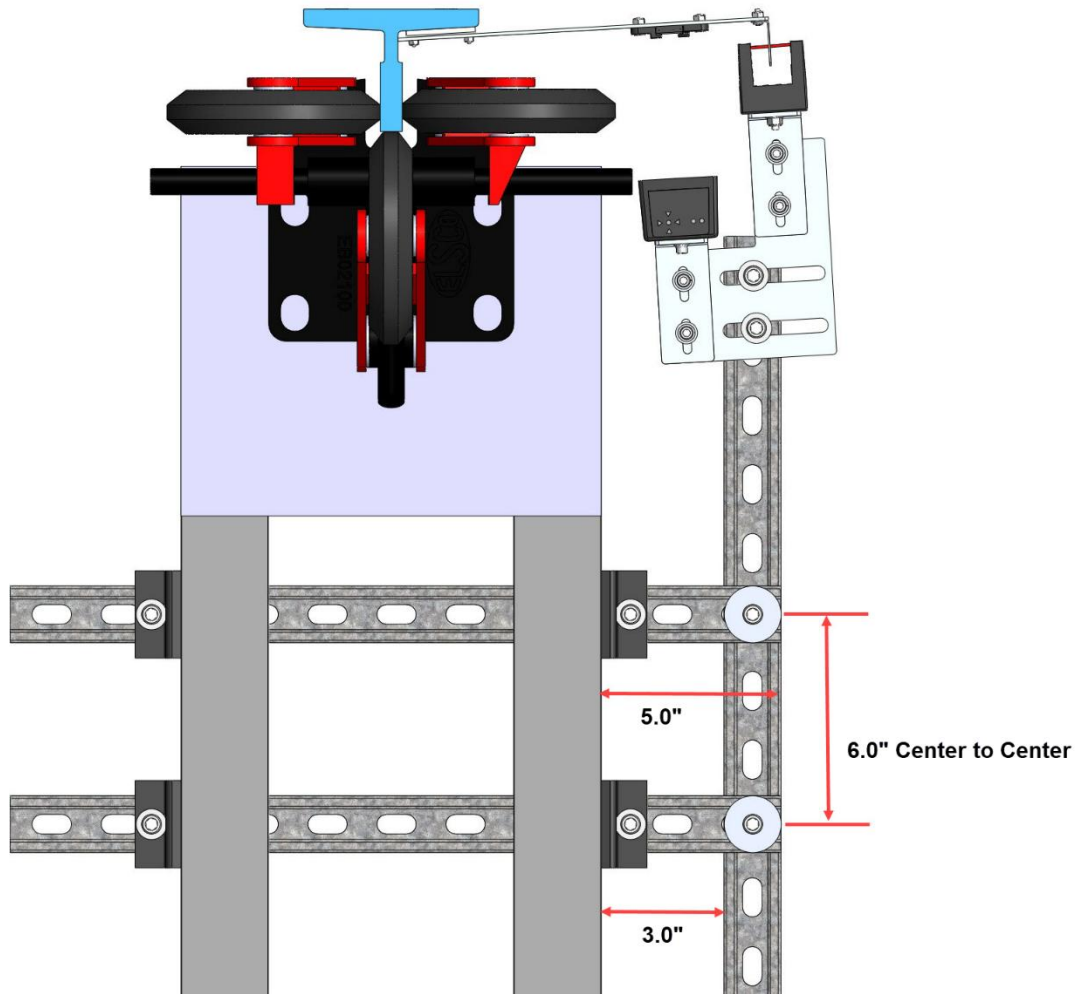

Figure 161: Unistrut Installation
NOTE: exact positioning and lengths of the Unistrut can be adjusted as needed if the Sensor Array is positioned as shown in Figure 161.
3. Bolt the 24" length of Unistrut to the two 18" lengths of Unistrut (See Figure 161).